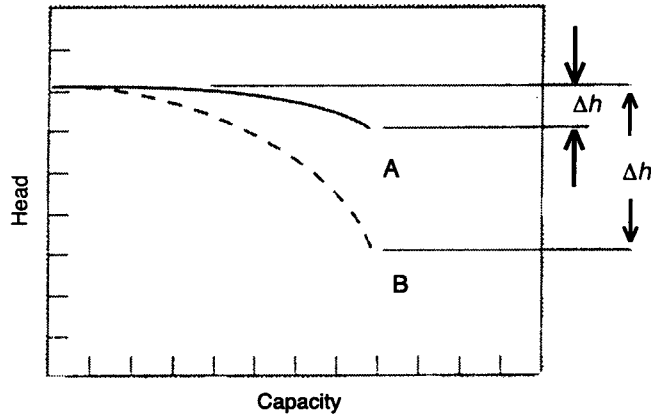

Figure 702.5.1 Capacity Vs. Head Curve
702.5 The accuracy of field performance tests is directly dependent on the accuracy of the head and flow measurements. Pumps with a relatively flat performance curve (A), as illustrated by the solid line curve in figure 702.5.1 require more attention to the precision of the flow measurement to produce a meaningful performance curve. Curves with a steeper slope (B) as illustrated by the dotted line in figure 702.5.1 require attention to a precise head measurement.